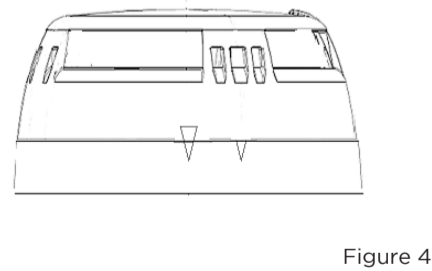

Figure 4
5. Verify the alignment between the ONEDETECTOR2_AP and the raised reference marks on the ONEBASE_AP.(Fig4)